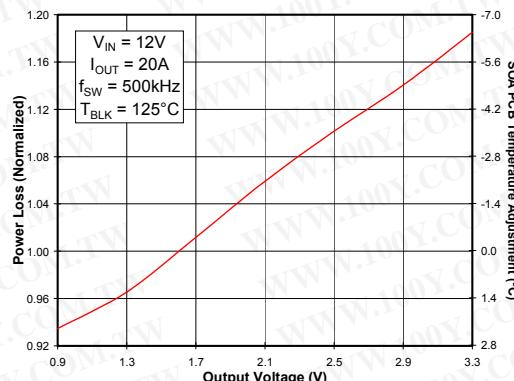

Fig 4. Normalized Power Loss vs. V_{OUT}
- (Fig. 4) Normalized power loss for output voltage ≈ 1.1
- (Fig. 4) Normalized SOA PCB Temperature for output voltage $\approx -3.5^{\circ}C$